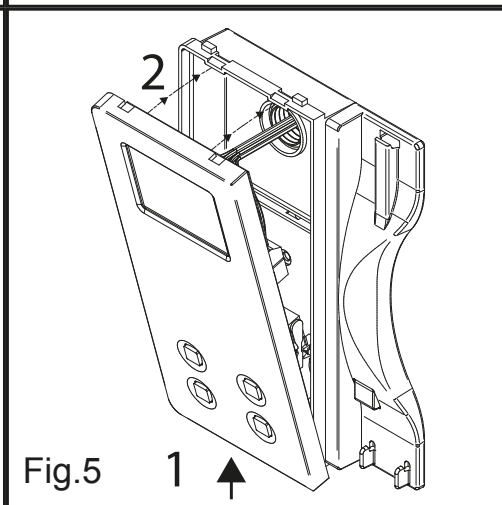

Fig.5
- Once testing is complete and all the necessary adjustments are made, disconnect the handset from the cover and close the unit as shown in figure 5: first hook it on the bottom then push in the top until you hear the clip.